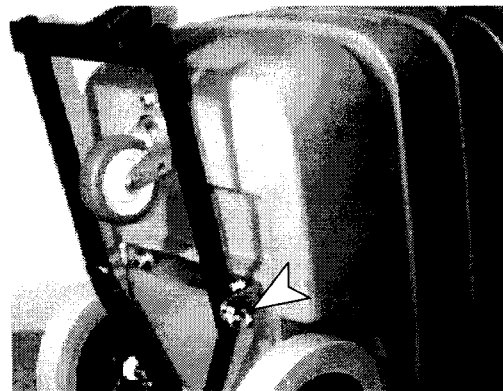

FIG. 2.
6. Fasten squeegee to mounting bracket. Use (2) clevis and cotter pins provided. (*Figure 2.*)